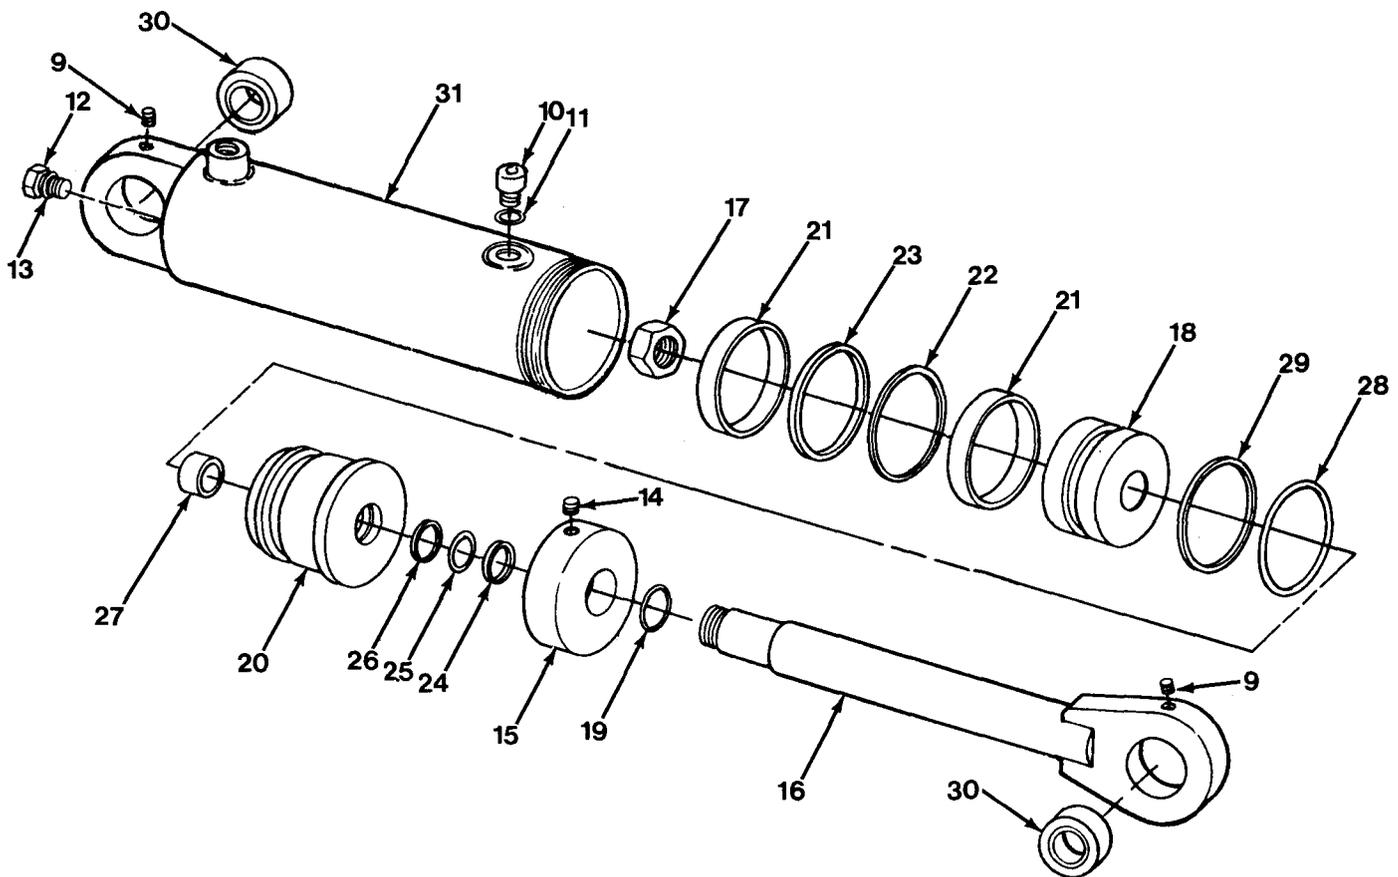

Figure 13-2
13. Slide rod assembly (16) into barrel assembly (31, Figure 13-2).
14. Tighten cap (15) on barrel assembly (12).
15. Install and tighten two setscrews (14).
16. Install O-ring (13) on bleeder screw (12) and install in barrel assembly (31).
17. Install O-ring (11) on breather port (10) and install in barrel assembly (31).
18. Install grease fittings (9) in barrel assembly (31).